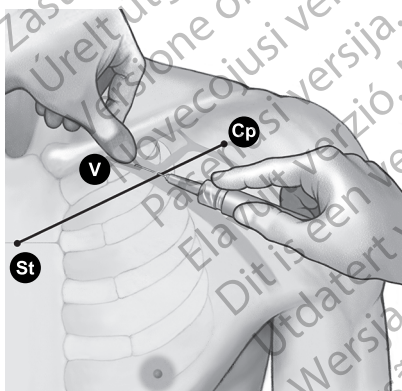

Figure 7. Location of thumb and needle entry
4. Press a thumb against the index finger and project 1–2 centimeters below the clavicle to shield the subclavius muscle from the needle (when hypertrophy of the pectoralis muscle is apparent, the thumb should project about 2 centimeters below the clavicle because the subclavius muscle should be hypertrophied as well) (Figure 7). Location of thumb and needle entry on page 17).